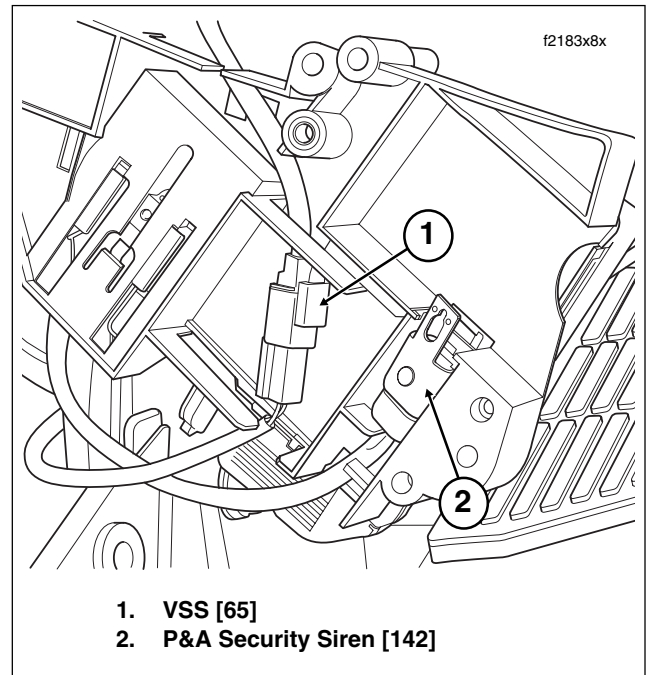

Figure 8-117. Electrical Bracket (Inboard Side)
5. Disconnect VSS connector [65], 3-place Deutsch, on the inboard side of the electrical bracket. See Figure 8-117.
- 6. Connect VSS connector. Route connector and cable on inboard side of electrical bracket as shown in Figure 8-117. Be sure that cable is properly routed or wires may be pinched during installation of bracket.